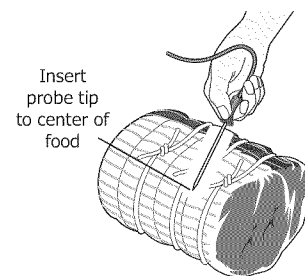

Figure 13: Probe in thickest area of food
- Insert the probe so that the probe tip rests inside the center of the thickest part of meat or food (Figure 13). For best results, do not allow the probe temperature sensor to contact bone, fat, gristle, or the cookware.